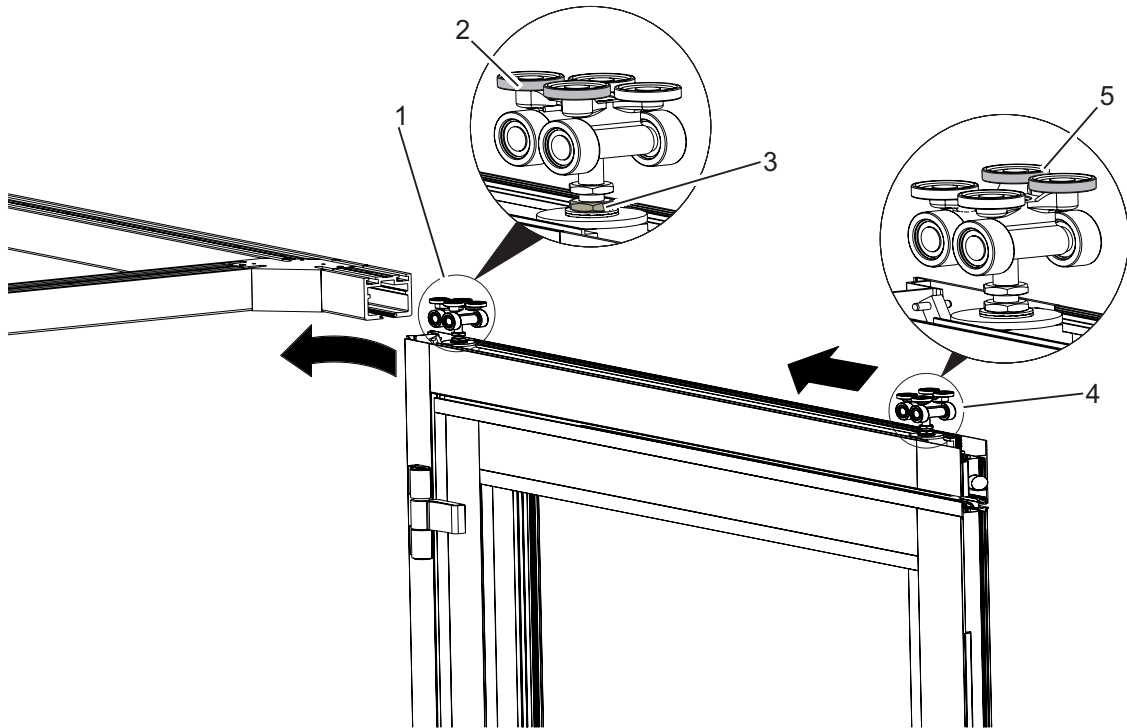
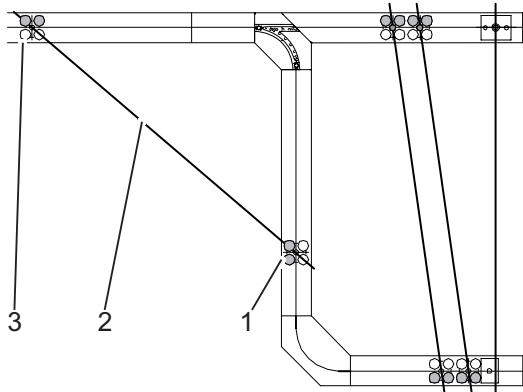

Fig. 19: Adjusting the running direction of the rollers.
Fig. 20: Example for a stacking arrangement (top view)
3. Mount the panel (Fig. 20/2) in the specified order (see separately supplied system drawing) with the roller into the tracks. Start with the panel that is parked first in the stacking area.
The higher lying rollers define the running direction. In the exemplary Fig. 19 and Fig. 20, the front roller (Fig. 19/1 and Fig. 20/1) runs into the branch. The higher lying rollers (Fig. 19/2) are on the inner track side. In case of the rear roller (Fig. 19/4 and Fig. 20/3), the rollers (Fig. 19/5) are on the inner side of the track.